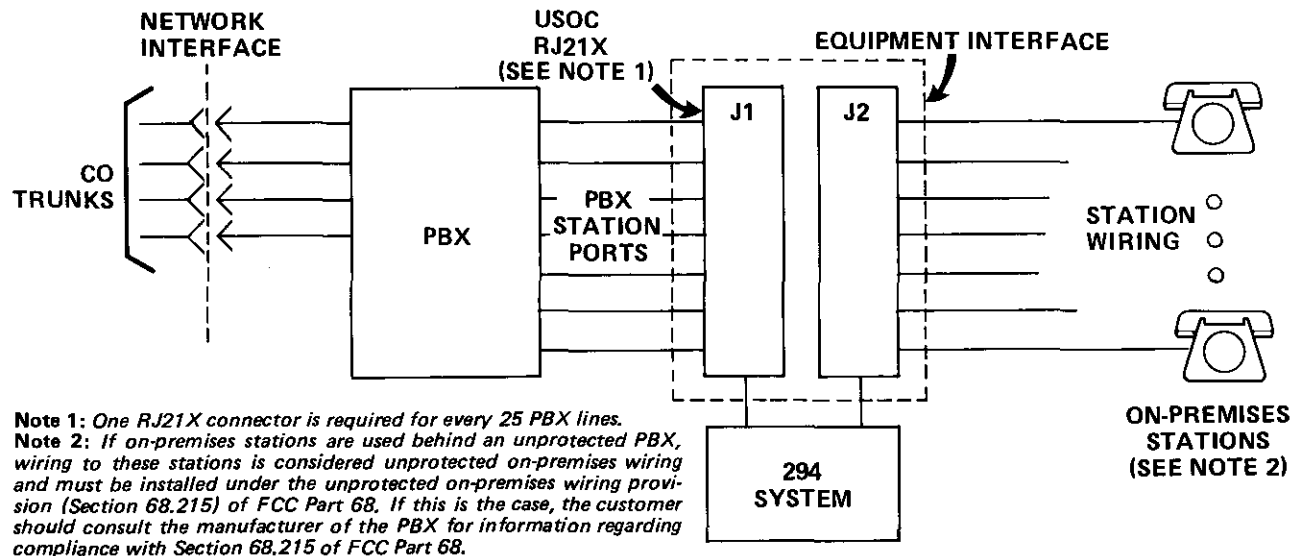

figure 11. Typical 294 System arrangement with PBX interface
table 1. Sample information table for 294 System configured as shown in figure 11
8.11 Figure 11 in this section shows a typical 294 System equipment configuration, while table 1 provides a sample information table. The sample table is representative of the information that the customer must supply to the serving telephone company in regard to installation of registered 294 Systems. Be aware that it is the responsibility of